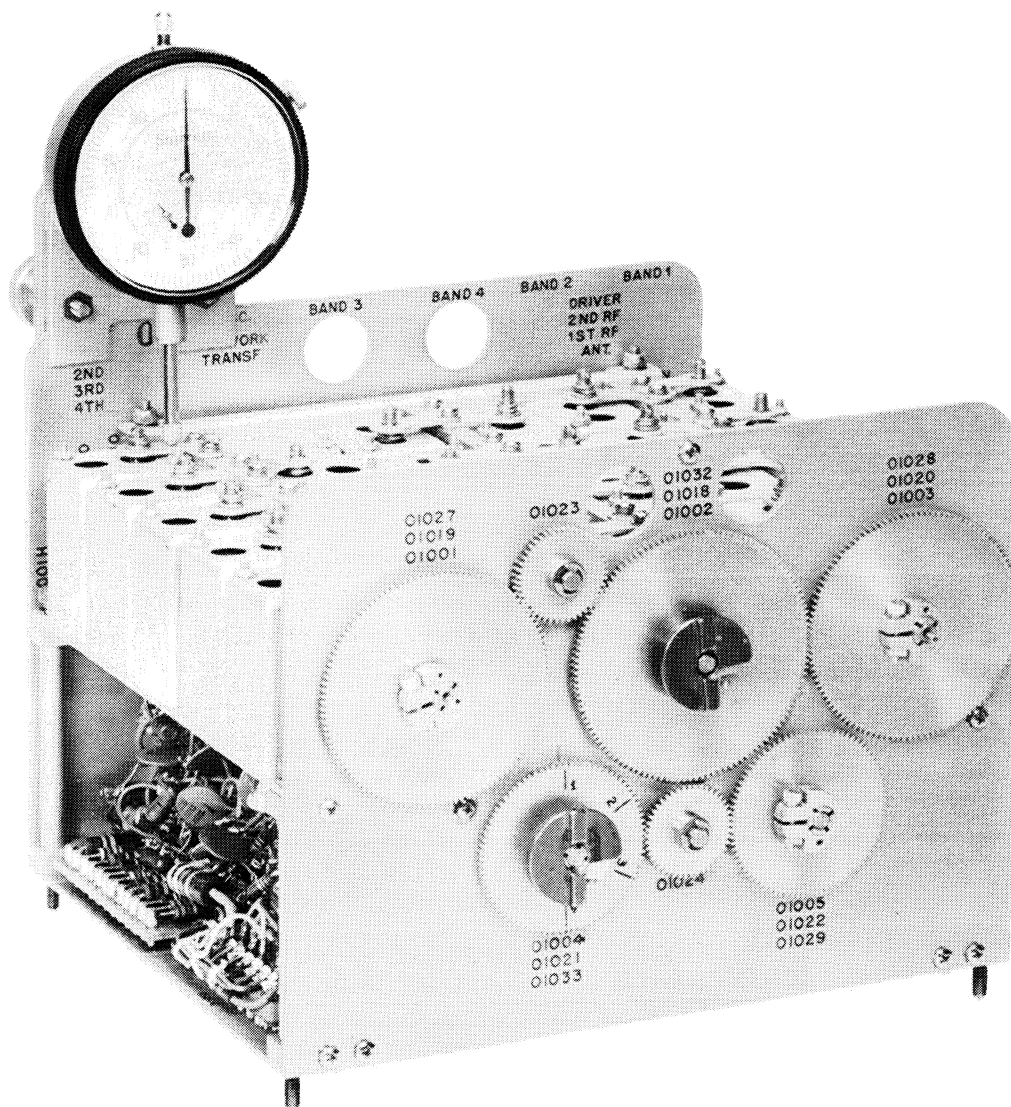

Figure 6-15. R-F Tuner, With Alignment Gauge in Position
e. Clamp the dial gauge to the rear panel with the measuring shaft resting on the slug rack near the discriminator coil. Refer to figure 6-15 for positioning.